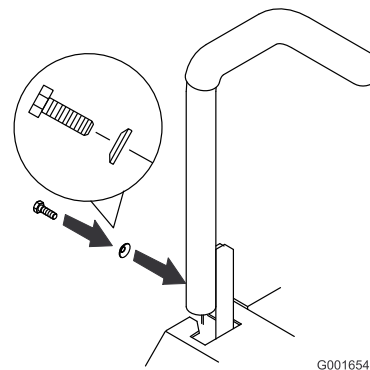

Figure 47
3. Loosen the bolts and curved washers installed in the levers (Figure 47).